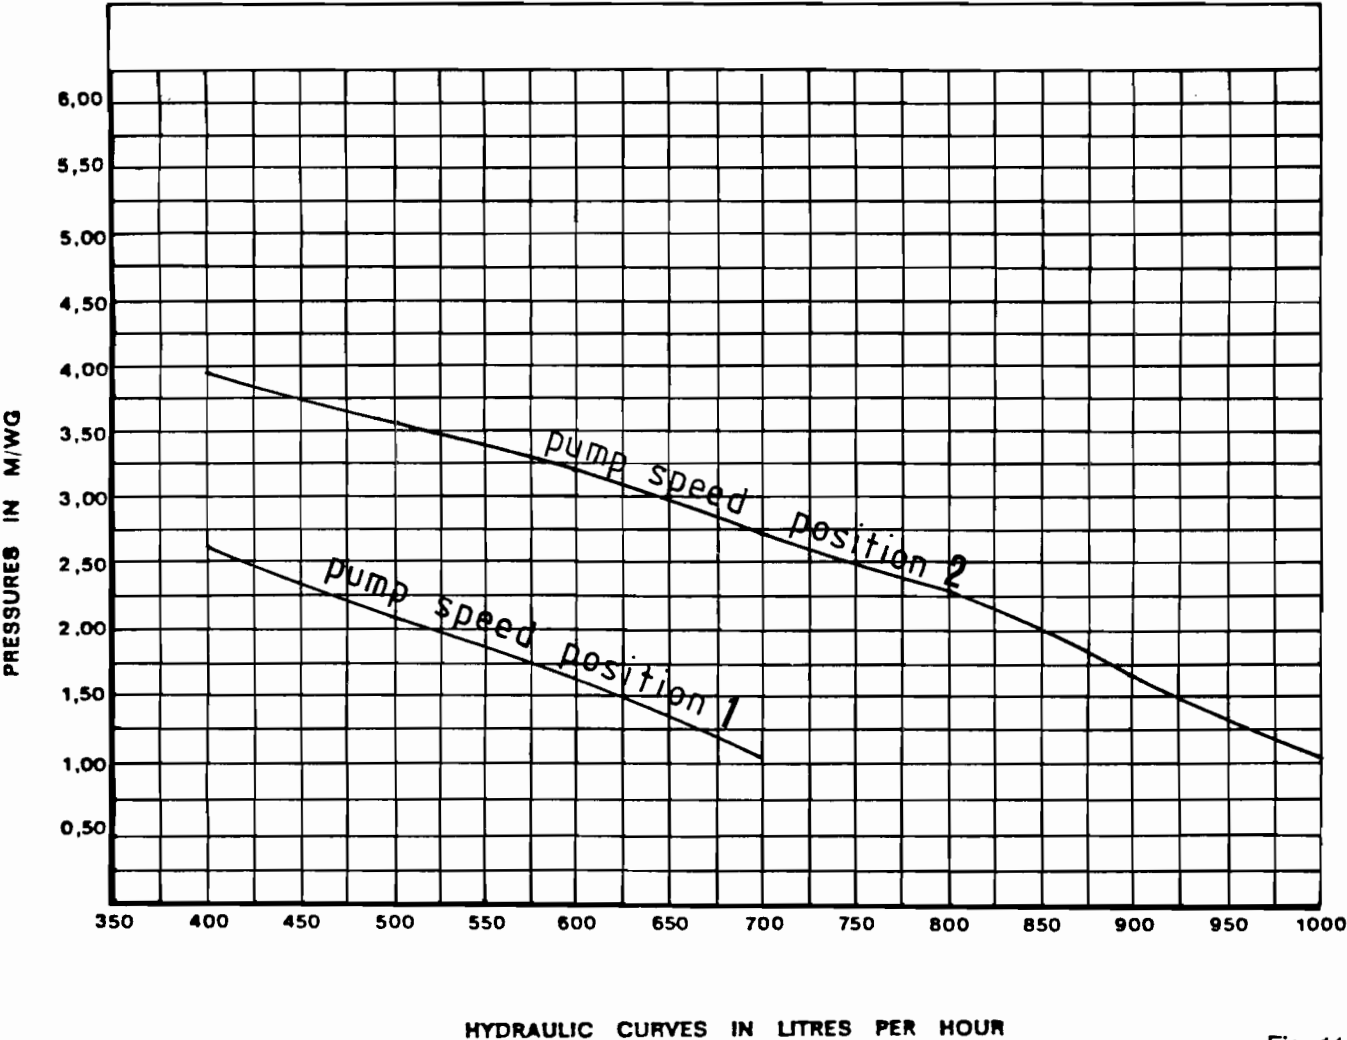

Fig. 11
1. Set the pump rate. The circulating pump has flow settings selected by a rocker switch on the left-hand side of the pump. Switch to the desired position to suit the system flow/resistance. Fig.11 shows the flow resistance curve for each setting.